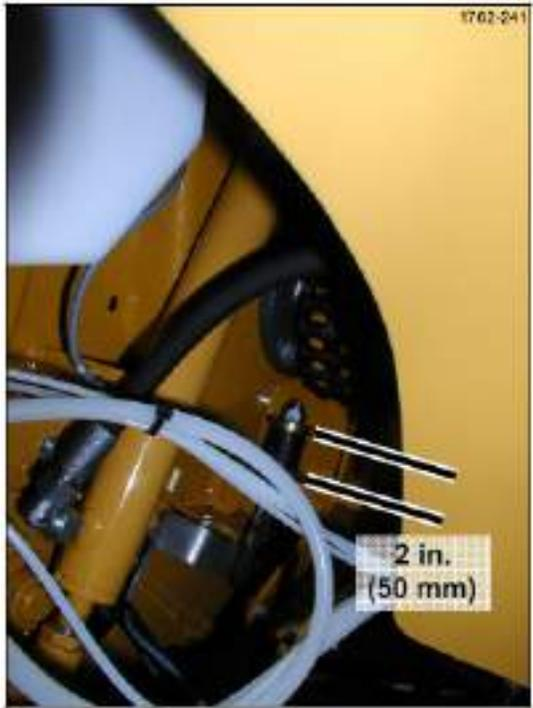

Figure 79. Hydroflex rubber spring
- Adjust the distance between top and bottom disc of the HYDROFLEX rubber spring: 2 in. (50 mm)(see Figure 79 on page 11-26).